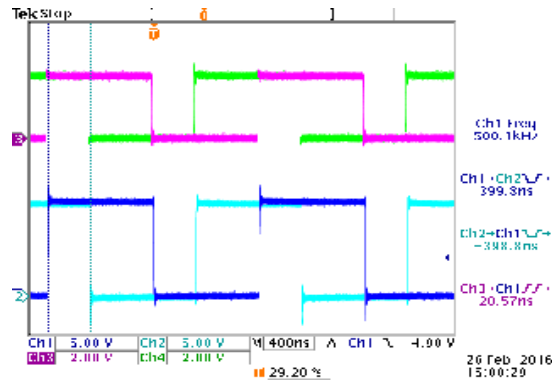

Figure 7-1. Overlap is Allowed When DT Connected to VCCI (Channels 3 and 4 are PWM Inputs, Channels 1 and 2 are Driver Outputs)
The dead time (DT) between the outputs of the two channels is decided by inputs (see Figure 7-1). Overlap between two output channels is allowed. Figure 7-1 shows a waveform with overlapped operations.